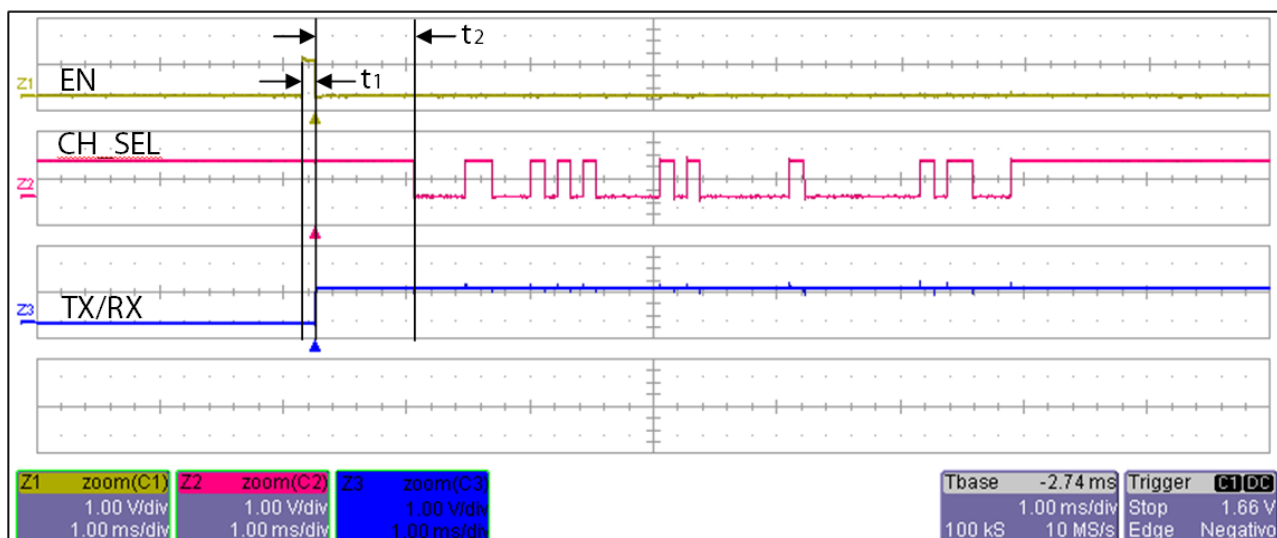

Figure 1: timings. $80 \mu s < t_1 < 120 \mu s$; $t_2 > 1 ms$
- generate a high pulse t_1 with a duration within 80 μ s and 120 μ s on EN line (see Figure 1).
- The time t_2 between the end of the pulse on EN line and start of data transmission on CH_SEL must be at least 1 ms (see Figure 1).